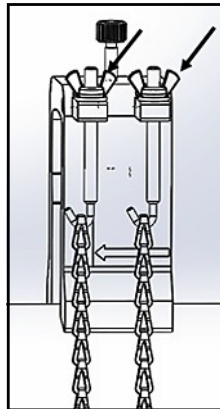

Figure 40: Secure the Yoke
- Tighten the nuts to secure the yoke to the pipe (see Figure 40 below).